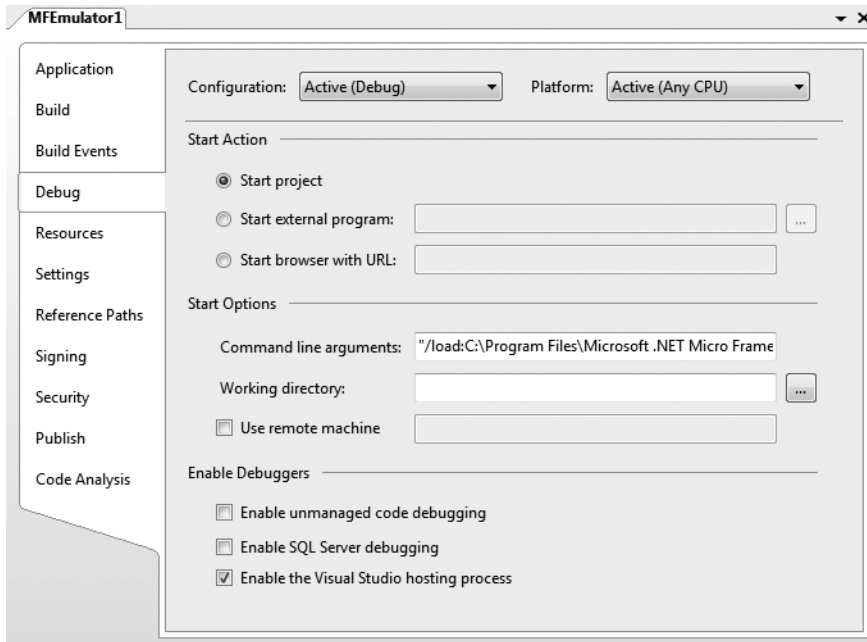

Figure 12-7. *Pasting the command-line arguments for debugging an emulator*
Now, you need to switch to Visual Studio with the emulator project, and in the project properties on the Debug page, paste the copied text into the “Command line arguments” field (see Figure 12-7).
- `/commandlinearguments`: Just like an emulator and every other Windows or smart device application, .NET Micro Framework applications also can accept command-line arguments. Passing a command line to a .NET Micro Framework application can be achieved either in Visual Studio, by entering the arguments at the “Command line arguments” field on the Debug page in the project properties exactly like it was described for the emulator earlier (see Figure 12-7), or by means of a command-line argument to the emulator, for example, `"/commandlinearguments:arg1 arg2 "arg with space" arg4"`. The entry point (the `Main` method) must be changed from `public static void Main()` to `public static void Main (string [] args)` to accept command-line arguments.